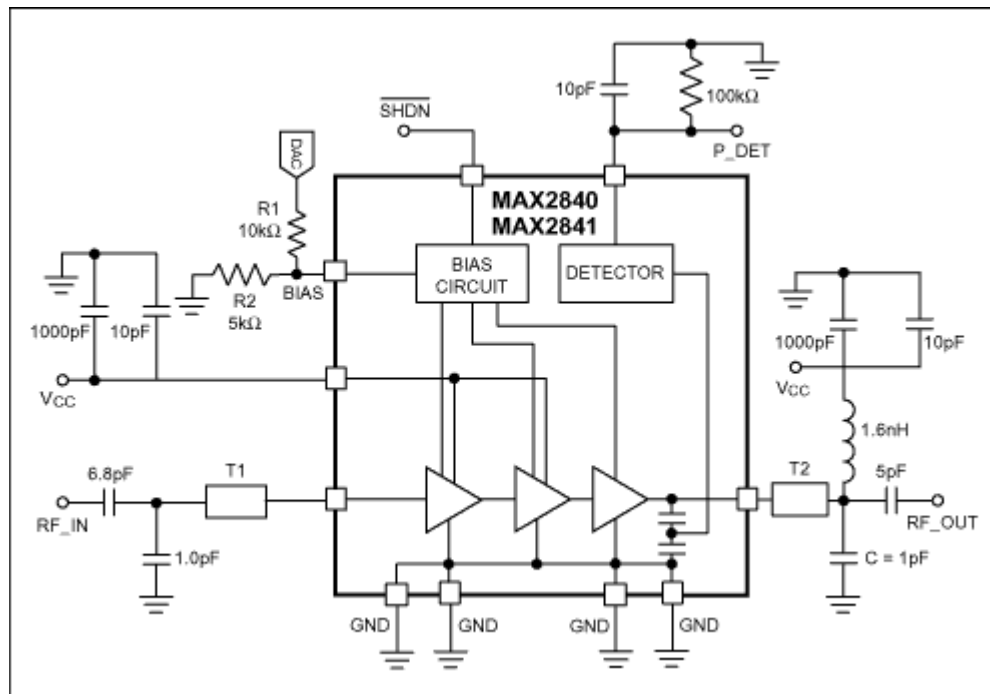

Figure 6. The MAX2840 5.8GHz PA schematic
- **Schematic.** Refer to Figure 6 for the schematic of the MAX2840, which demonstrates the component changes that need to be made to the MAX2840 EV kit to achieve the above performance.